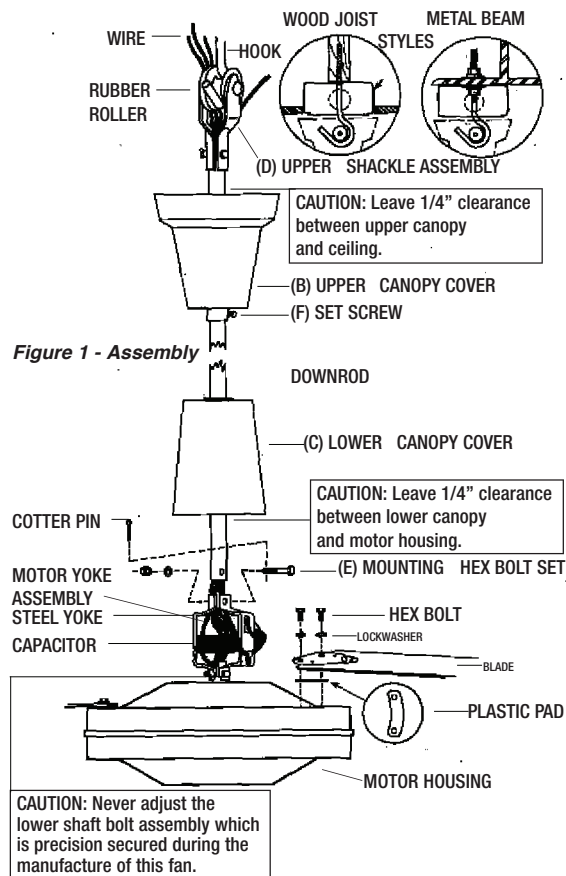

Figure 1 - Assembly
1. Slide the lower canopy (C) down over motor yoke assembly. A 1/4" minimum space is required between bottom of canopy and top of motor. (See Figure 1)
CAUTION: Blades must be fastened to the motor as shown in Figure 1. DO NOT reverse blades when installing.
CAUTION: If Pilot hole is used with the wood thread hook, the pilot hole should be drilled no larger than the minor diameter of the screw threads on the hook. Do not put lubricant on the "J" hook. At least 1 1/2" of the screw threads should be secured into the structural wood joist. When the threaded bolt hook is used, be careful to secure tightly with supplied lockwashers and nuts. Attach the hook as instructed and hang the fan. See illustration - Fig.1.